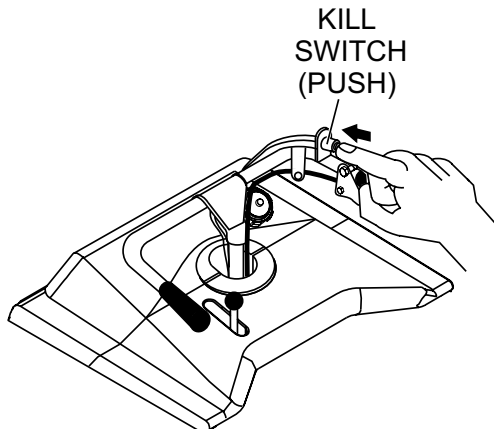

Figure 28. Safety Kill Switch
1. Push the power buggy's kill switch inward (Figure 28) and listen for the engine to stop.